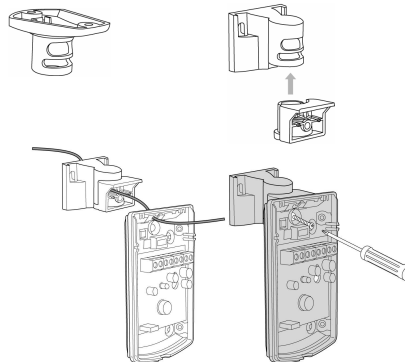

Fig.7
4. The circular and rectangular indentations at the bottom base are the knockout holes for wire entry. You may also use mounting holes that are not in use for running the wiring into the detector. (For option with bracket - lead wire through the bracket – fig.7)
5. Mount the detector base to the wall, corner or ceiling. (For option with bracket see fig.7).